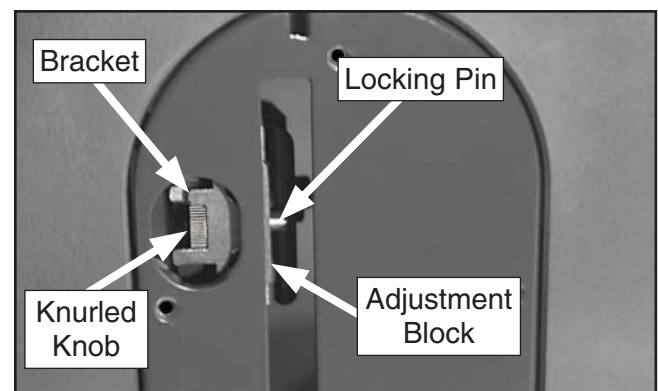

Figure 39. Knurled knob used to secure spreader.
3. Slide the knurled knob out (see **Figure 39**) and rotate it so it engages the upper bracket.